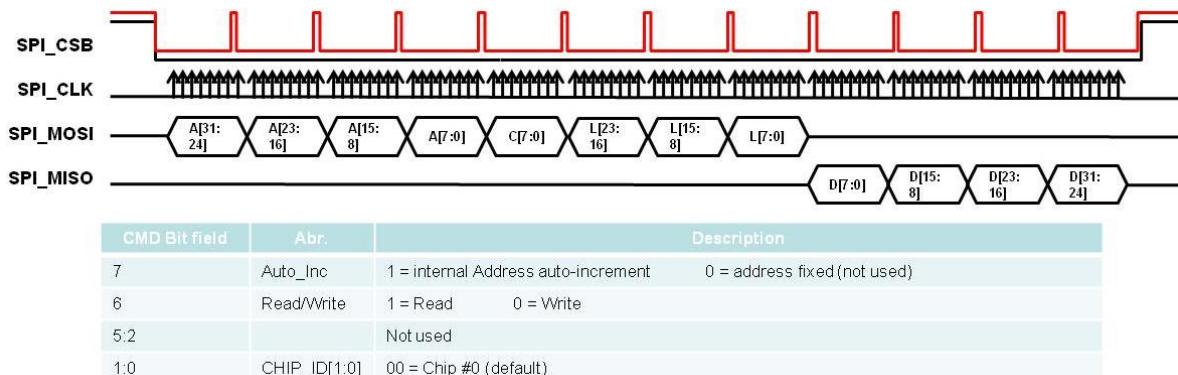

Figure 11: SPI Signals for Read Response
Note that the read data is transmitted MSB first and little-big endian system (see Figure 11).
- ⌚ Note that the read data is transmitted MSB first and little-big endian system (see Figure 11).
- Note that the read data is transmitted MSB first and little-big endian system (see Figure 11).